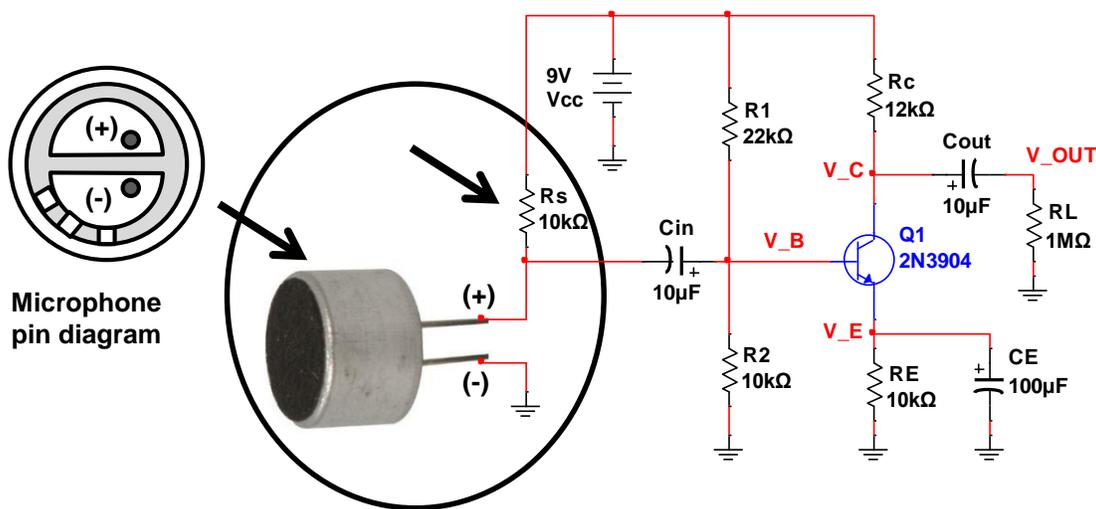

Fig. 7: Add the microphone to your AWESOME common emitter amplifier.
- **Step 3a: Add the electret microphone to your common emitter amplifier, as shown in Fig. 7.**
- The microphone needs a $+9\text{V}$ supply and a 10 kohm resistor, as shown in Fig. 7.
- The (-) pin of the microphone has the “three-spoke” pattern on the back of the capsule (see left side of Fig. 7).